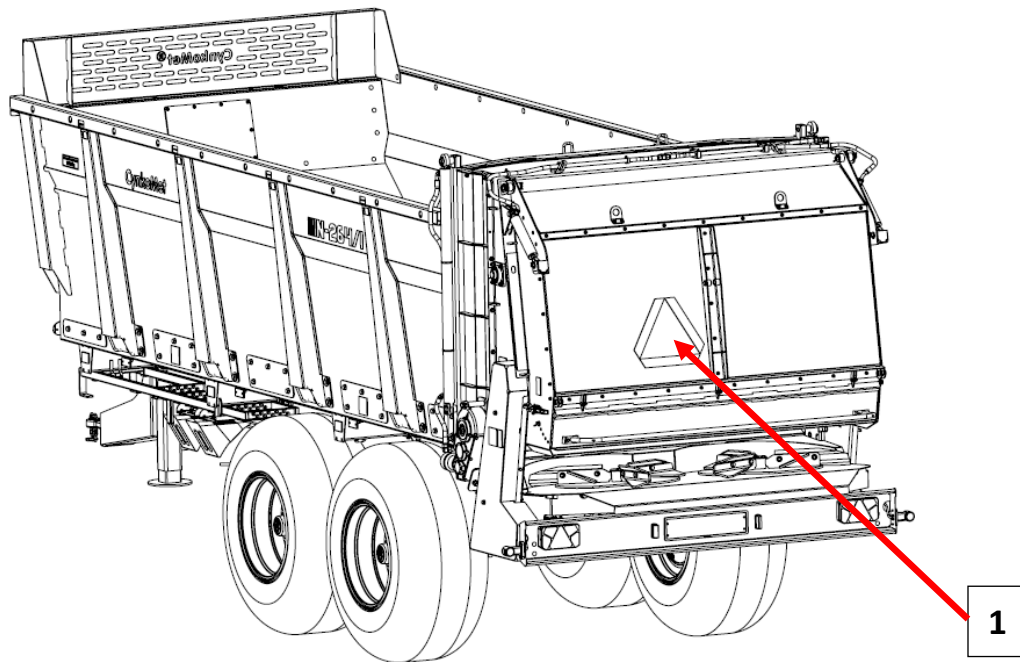

Figure 3.2. The location of the placement of the plate distinguishing slow-moving vehicles.
- While driving on public roads, the spreader should be equipped with a certified or approved warning triangle. A triangular plate should be placed on the rear wall for slow-moving vehicles (1) as shown below (Fig. 3.2). The triangle must be attached to the handles located on the wall of the deflector.